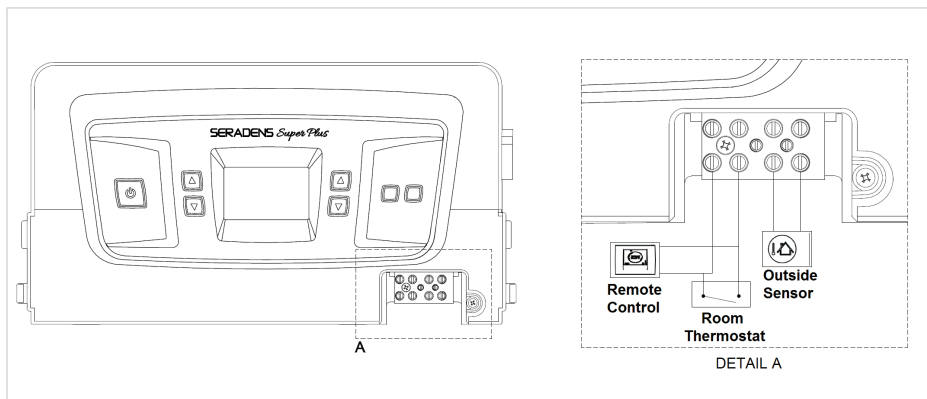

Figure 30. Electrical connections
- c. Slacken the screws and remove the protective cover positioned right-bottom part of the plastic panel (see detail A in Figure 30).
- d. With the cover removed, connect remote control, room thermostat and outside sensor wires as shown in Figure 30 detail A.